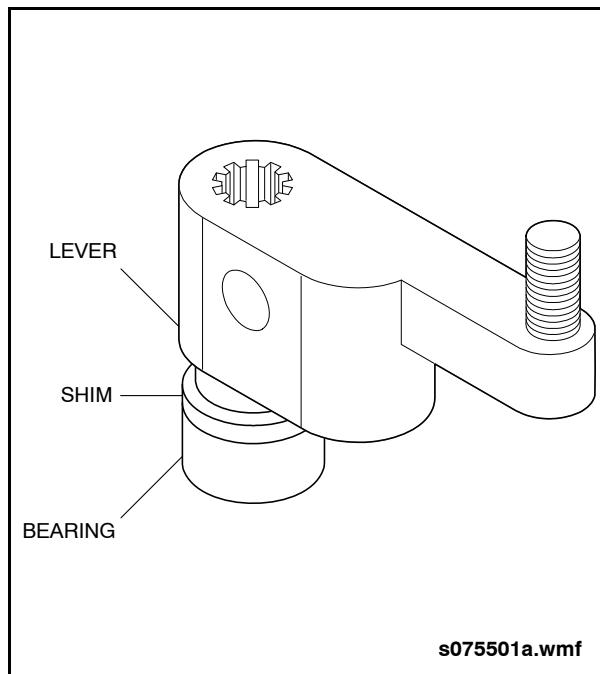

Fig. 16-15: Door Shaft Lever Shim Adjustment
4. With the doors in the fully closed position, check that the top brush forms a seal with the top of the doors, with a maximum gap of 0.030". If gaps exist, install additional spacers between the door shaft lever and bearing to raise the door enough to form a seal. See "Fig. 16-15: Door Shaft Lever Shim Adjustment" on page 36.